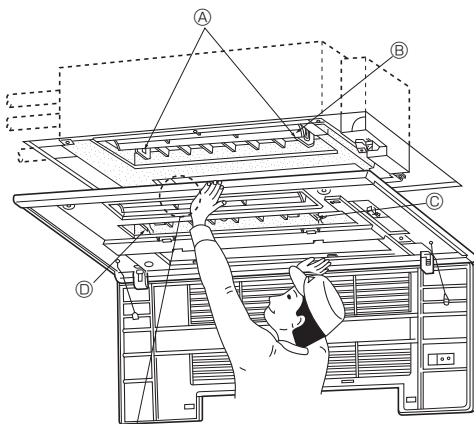

Fig. 5-4
5.3. Installing the grille (Fig. 5-4)
- (A) Hooks
- (B) Open the upper and lower flaps completely.
- (C) Temporary holding tab
- (D) Temporary holding tab
- (E) Screw cover